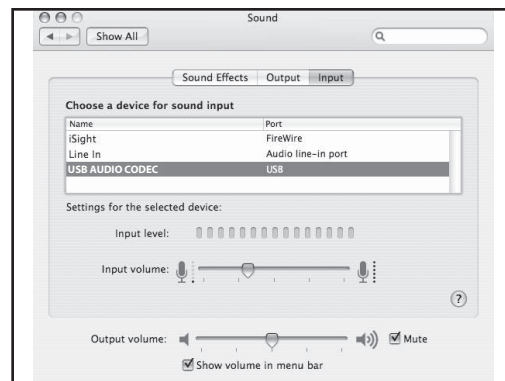

Figure 10
4. Now, click in the Input tab and select USB Audio Codec (figure 10). You may notice that the Volume slider sets itself to the full level. This will allow you to have full range using L Series's hardware input level controls.